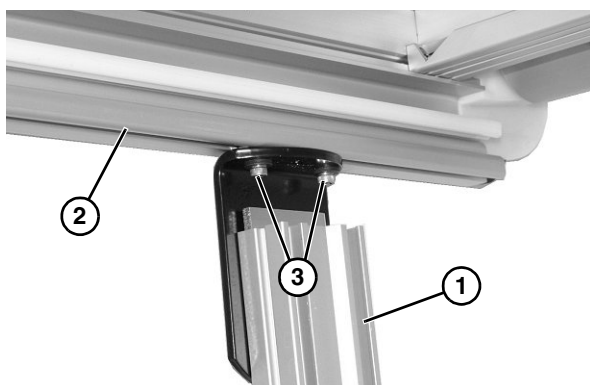

Figure 9
2. Attach stands (**Figure 9, item 1**) to the bottom of the conveyor frame (**Figure 9, item 2**). Tighten socket head screws (**Figure 9, item 3**), on each side, to secure in place.